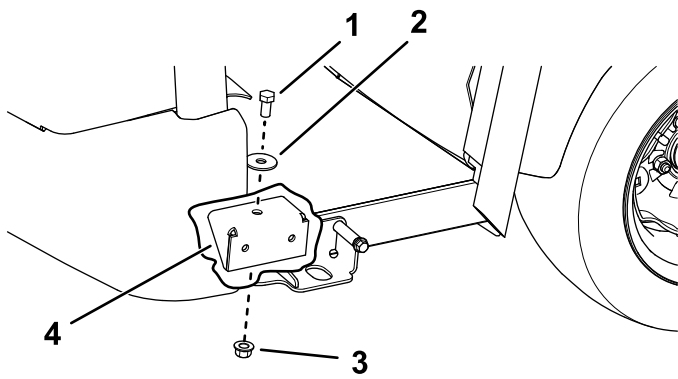

Figure 27
5. Install the front cab mount brackets using a hex-head bolt (7/16 inch), thrust washer, and locknut (1/2 inch) on each side (Figure 27).